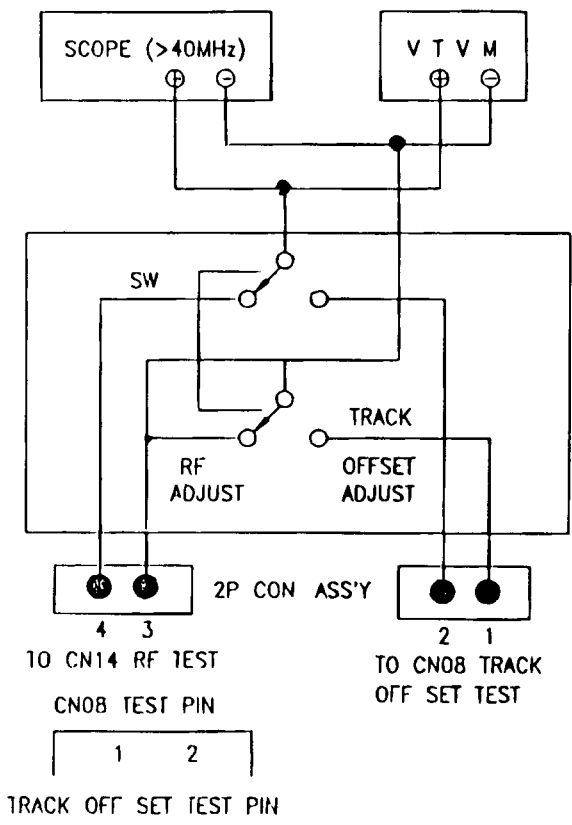

Figure 11
- a. CD in play mode, digital volt-meter connected to IC01 pin 19 & GND. (See Fig. 11)
- a. Track off set test pin connected to CN08. (See Fig. 11)